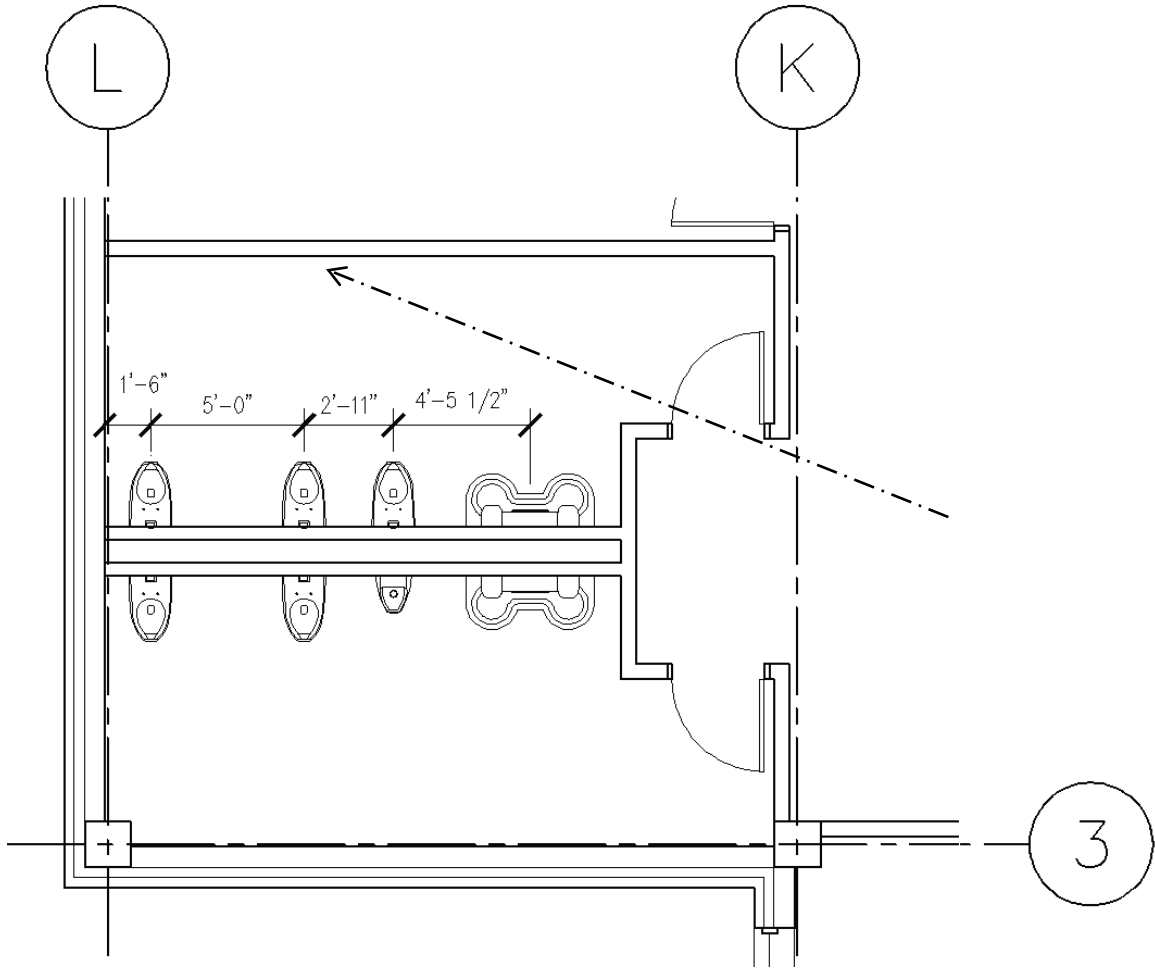
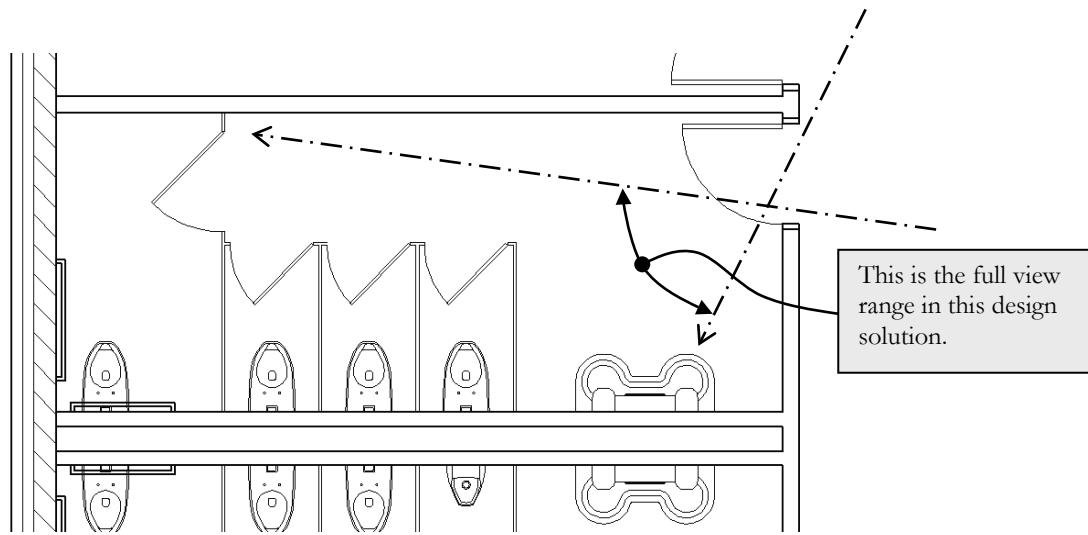

FIGURE 4-1.7 Place the fixtures shown; dashed line shows sightline
FIGURE 4-1.8 Dashed lines reveal unacceptable sightlines into the toilet room
15. Insert the plumbing fixtures as shown in Figure 4-1.7, *plus*:
- b. See **Figure 4-1.6a** for the grab bar dimensions; see Figure 4-1.8 for grab bar locations.
- c. The northern room has (3) toilets and a Lavatory System.
- d. The southern room has (2) toilets, a urinal and a Lavatory System (obviously this is the Men's toilet room).
**Sight-lines** are typically explored by drawing a line from the adjacent hallway (or space), through the door opening, into the toilet room. Looking at Figure 4-1.7 you can see the sight-lines are quite acceptable. As previously mentioned, this design solution takes up a fair amount of floor space but is necessary.
An unacceptable design solution is shown in **Figure 4-1.8**. The toilet room is much larger and can even have another toilet fixture without the door modification for sight-lines; also, the door is right off the circulation path which can be problematic. Notice two lines are shown to visualize the full visual range. Granted, some of this view is obstructed by a person's body as they pass through the door opening; it is still an undesirable design solution.